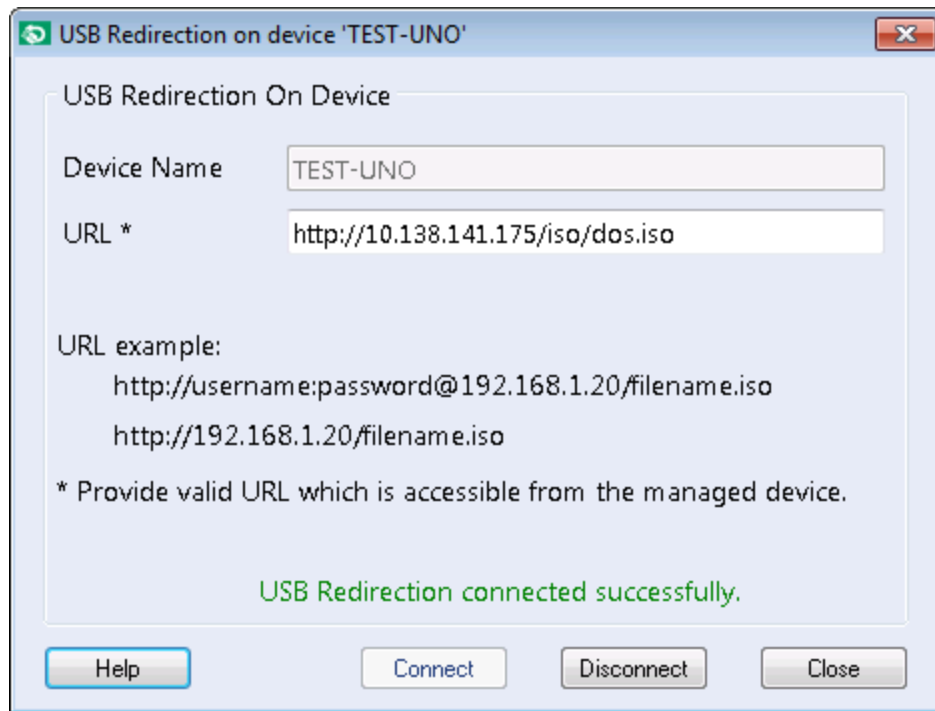

Figure 37: USB Redirection Connect
- If the URL is valid, a message, **USB Redirection connected**, appears as shown in Figure 37.